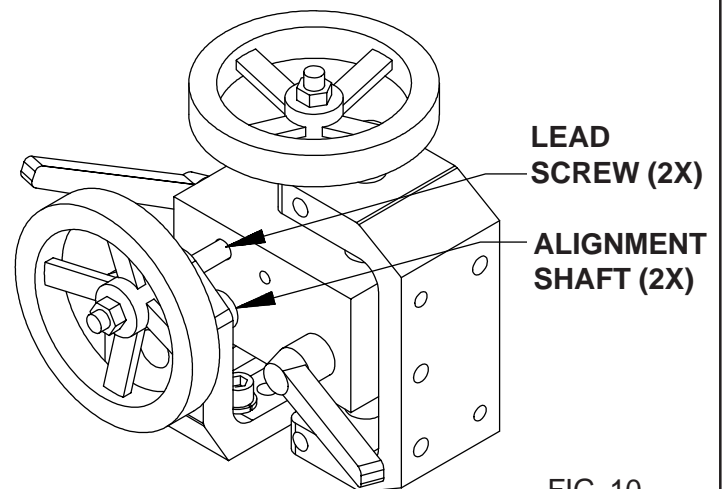

FIG. 10
6. Wipe and relub with never-seez, the vertical and horizontal alignment shafts and lead screws, every six months. See FIG. 10.